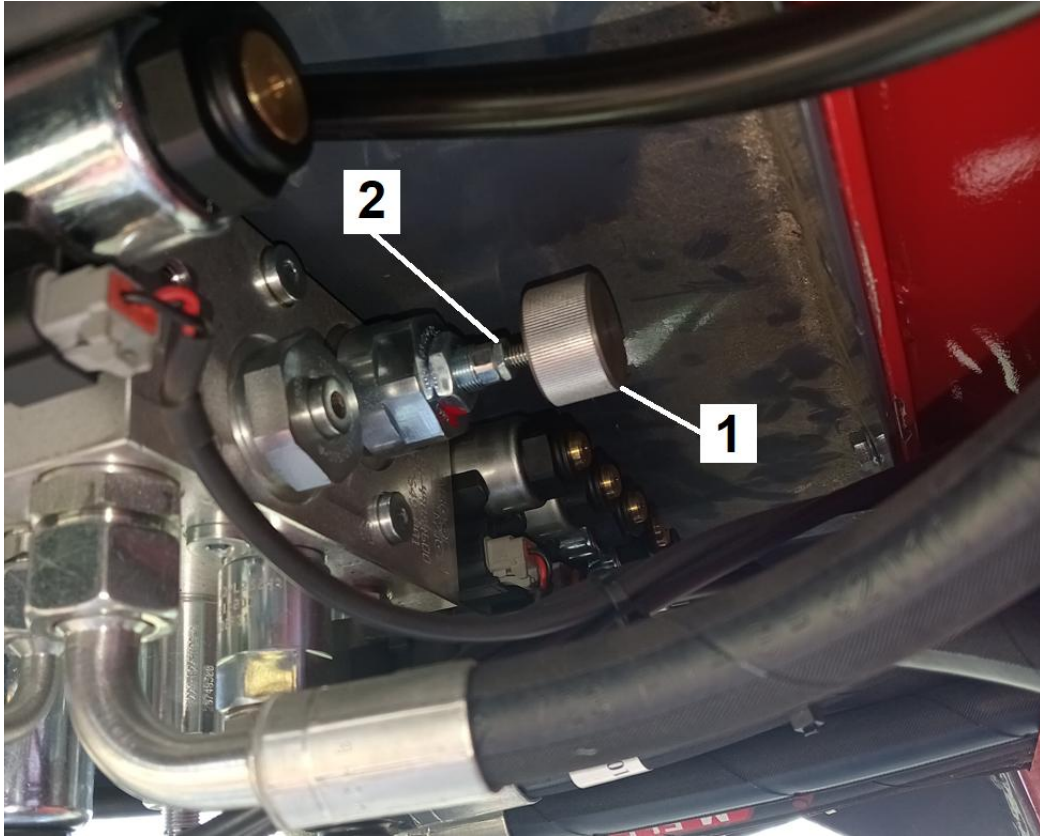

Figure 31. Valve unit
The valve unit (Figure 31) is fitted with a control knob (1) that the operator uses to select the power supply from the tractor's hydraulic system: